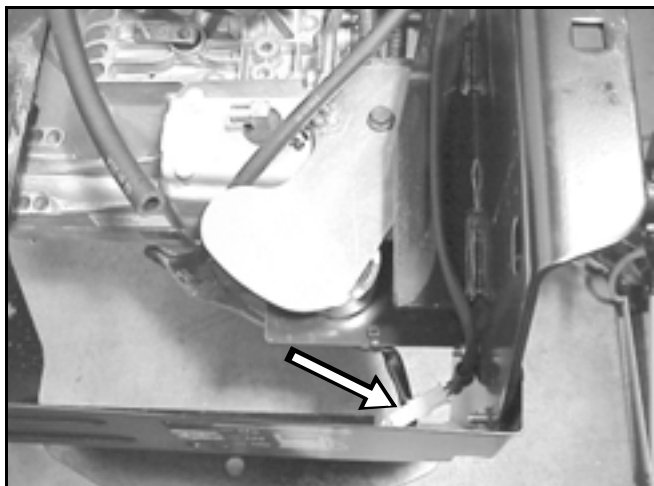

Figure 120
5. If the tractor is equipped with cruise control, unplug the cruise control magnet wiring connectors (Figure 120).